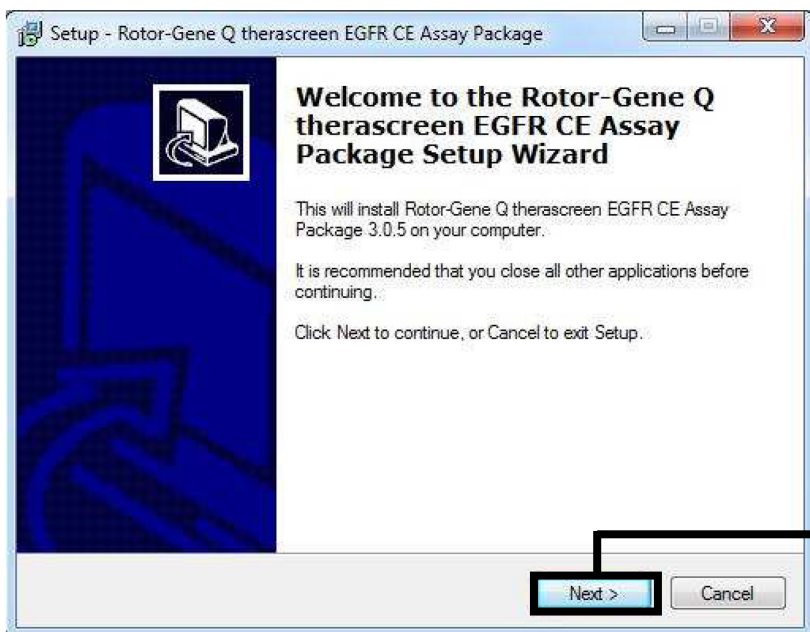

Figure 41. The "Setup Wizard" dialog box (1 = "Next" button).
4. **The *therascreen* EGFR CE Assay Package setup wizard opens. Click “Next” to continue (Figure 41).**